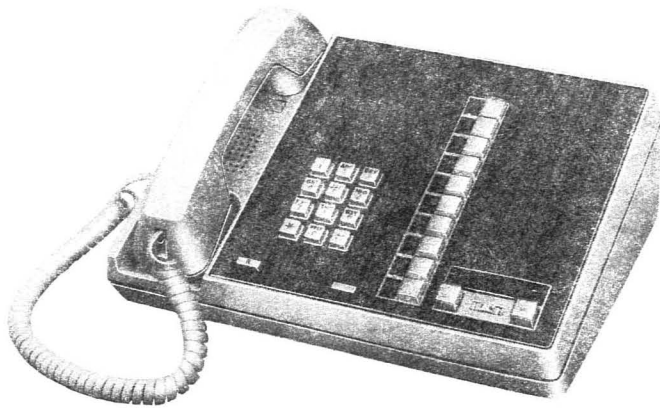

Fig. 7—2993C04 Telephone Set With Built-In Speakerphone
3.08 ♦The 2993C04 set, (Fig. 7) provides a built-in speakerphone (1C transmitter-receiver) and a 10-button key array. The 1C transmitter-receiver is mounted in the space normally occupied by key positions 11 through 30 used in the 30-button set. An ON/OFF, 1FF button, volume control, and LED are located in the speakerphone cover. ♦